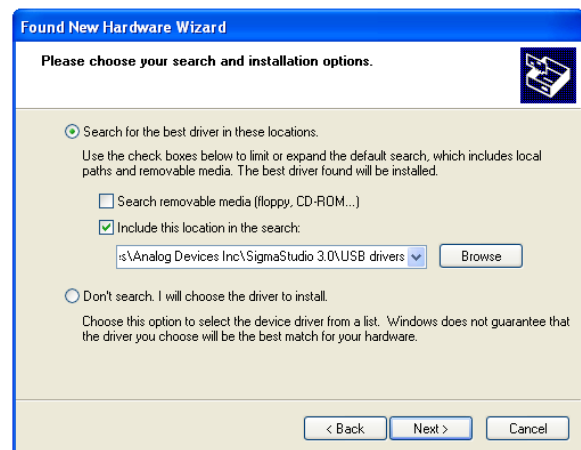

Figure 4. **Found New Hardware Wizard**—Search and Installation Options
2. Click **Search for the best driver in these locations**, select **Include this location in the search**, and click **Browse** to find the USB drivers subdirectory within the SigmaStudio directory (see Figure 4).